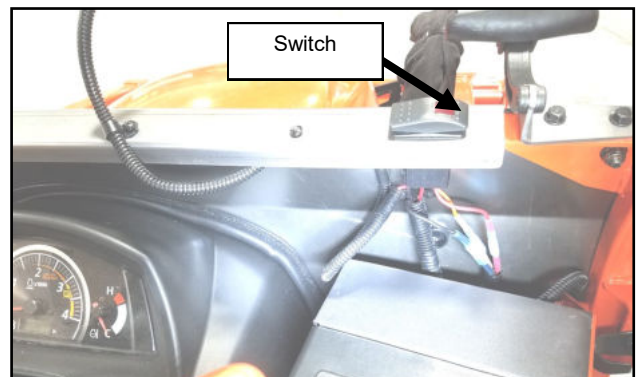

Fig. 1.3 (Install Switch)
- 1.3 See fig. 1.3. Push the switch connector up through the rectangular hole in the cowl, connect to the switch and snap in the heater switch. The "off" position for this switch is in the middle, with low speed one way and high speed the other way. The switch may be installed in either direction, and can be removed and rotated 180° later if desired.